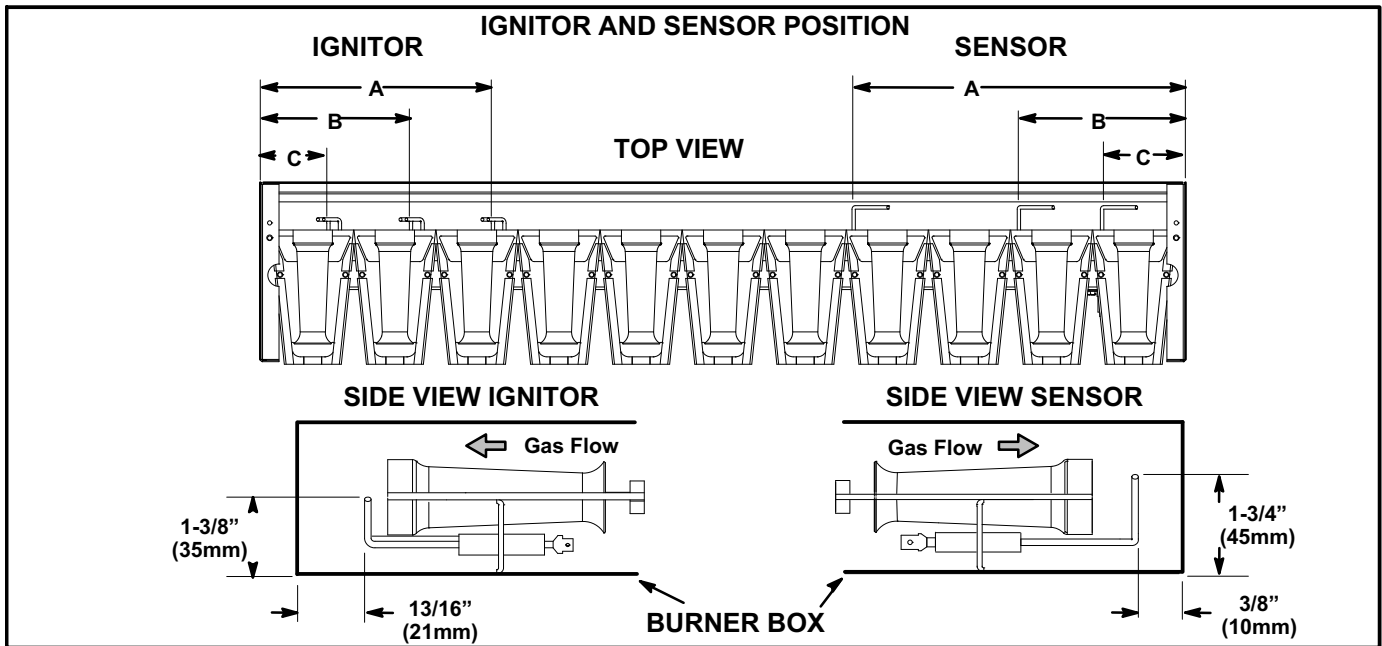

FIGURE 33
- 5- Check the alignment of the ignitor and the sensor as shown in figure 33 and table 15.